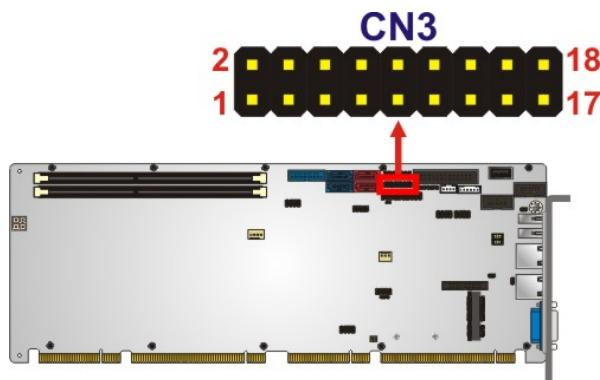

Figure 3-8: EC Debug Connector Location
**CN Location:** See Figure 3-8